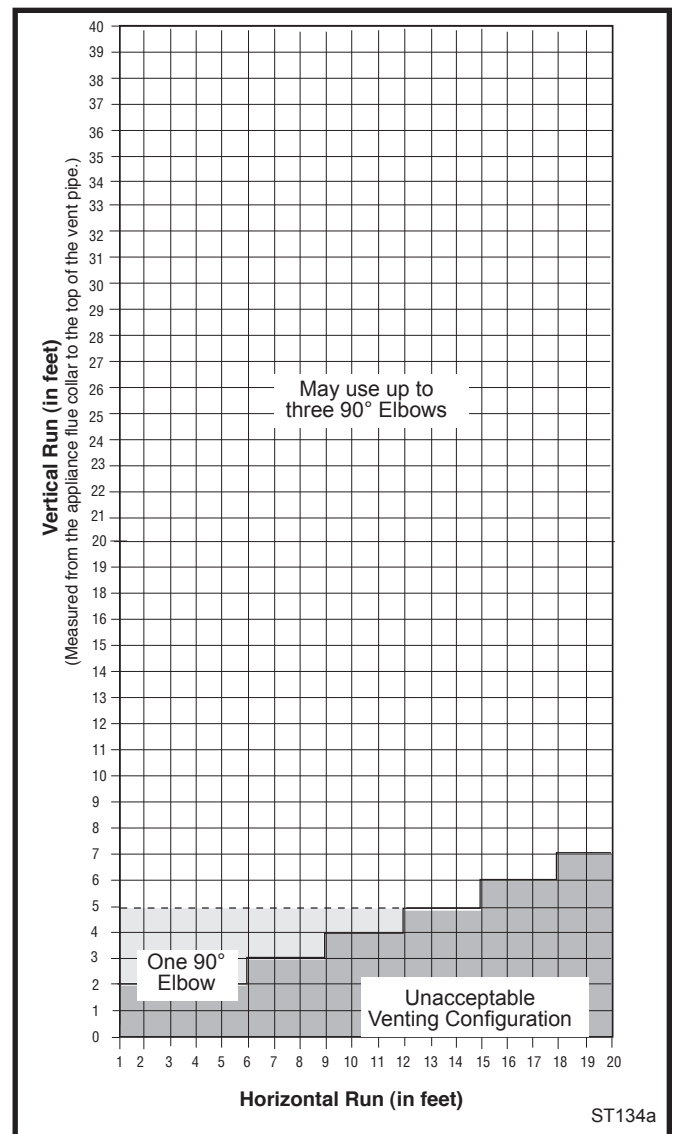

Fig. 7 Horizontal vent termination window.
The vent must rise vertically a minimum of 24" (610mm) off the top of the unit, before the first elbow. The horizontal run may extend up to 20' (6m) and include a vertical rise of up to 40' (12m). (Fig. 7) Horizontal termination must also meet the criteria shown in Figures 10 through 12.
- Approved vent systems must terminate above and including the heavy line in Figure 7.